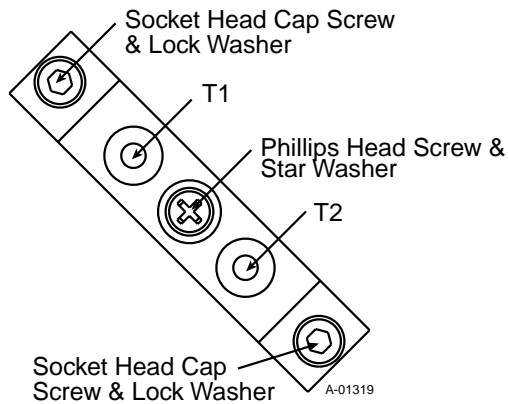

Figure 4-16 Model "B" Diode Bridge Assembly (top view)
9. Secure Heatsink as shown in Figure 4-16 above. Torque all screws to 35 in- lbs.